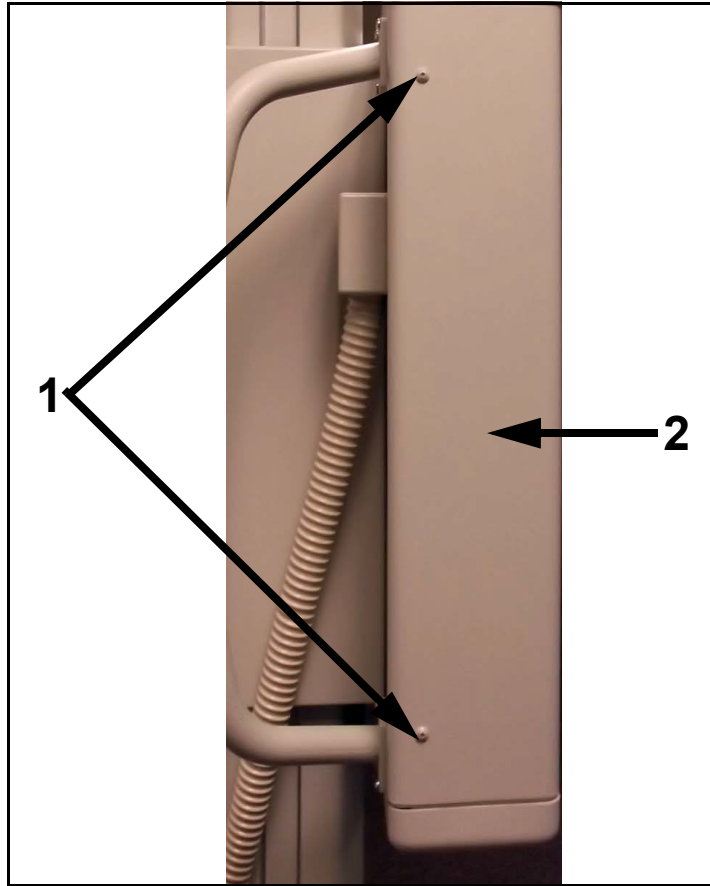

Figure 5-5. Left Side Panel & Front Panel
- 4 Unscrew the two left side cover screws (1 in Figure 5-5) and remove the side cover (2).